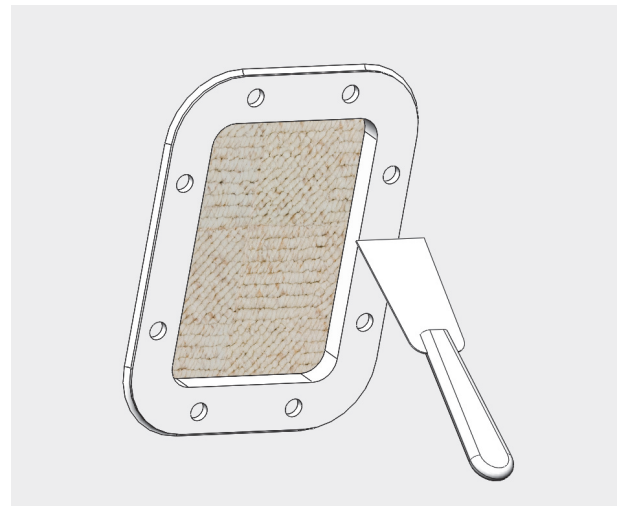

Fig. 2
6. Remove the gasket on the transmission opening and clean the aperture using a putty knife or wire brush (Fig. 2).